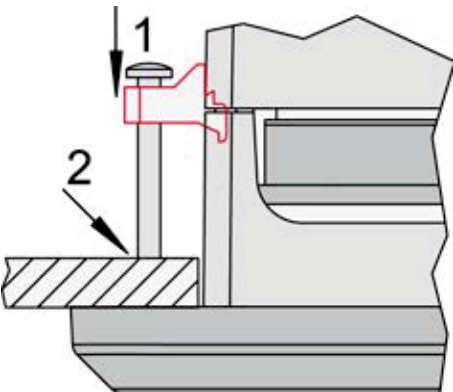

Fig. 14: Tighten clamping screws
6. → Tighten the clamping screws (Fig. 14/1) until the control unit is secured to the control panel (Fig. 14/2). Over tightening of these screws may result in the clamp inserts or the housing breaking. Do not exceed the recommended tightening torque of 0.1 Nm.